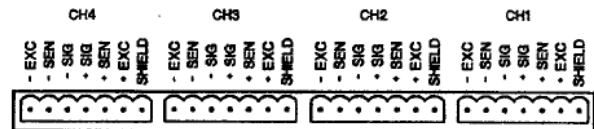

Figure 2-3. FSk-40 Quick Connect Cable Ports.
- (2) Plug one quick connect cable into the display unit for each system transducer Figure 2-3. Cables are numbered (1-4) for easy reference.